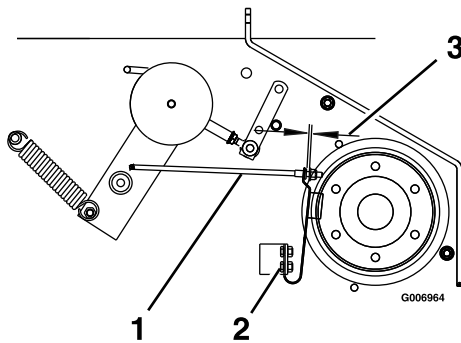

Figure 16
3. Make sure the blade brake pad rests against the sheave. Adjust the spring mounting bolts to properly align the pad on the sheave (see Figure 16).
4. Check the distance between the spacer and the nut at the end of the blade brake rod. The distance should be between 1/8 inch (.32 cm) and 3/16 inch (.47 cm) (see Figure 16).